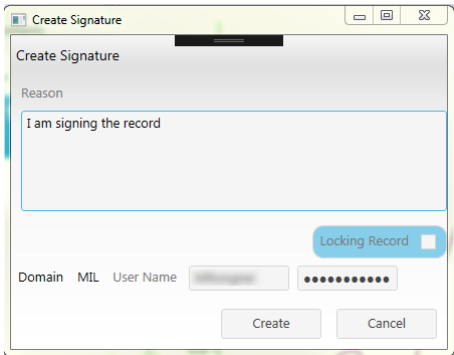

Figure 5.7 Create Signature window
3. In the **Create Signature** window (Figure 5.7), enter the reason for the signature, your user name and your password.